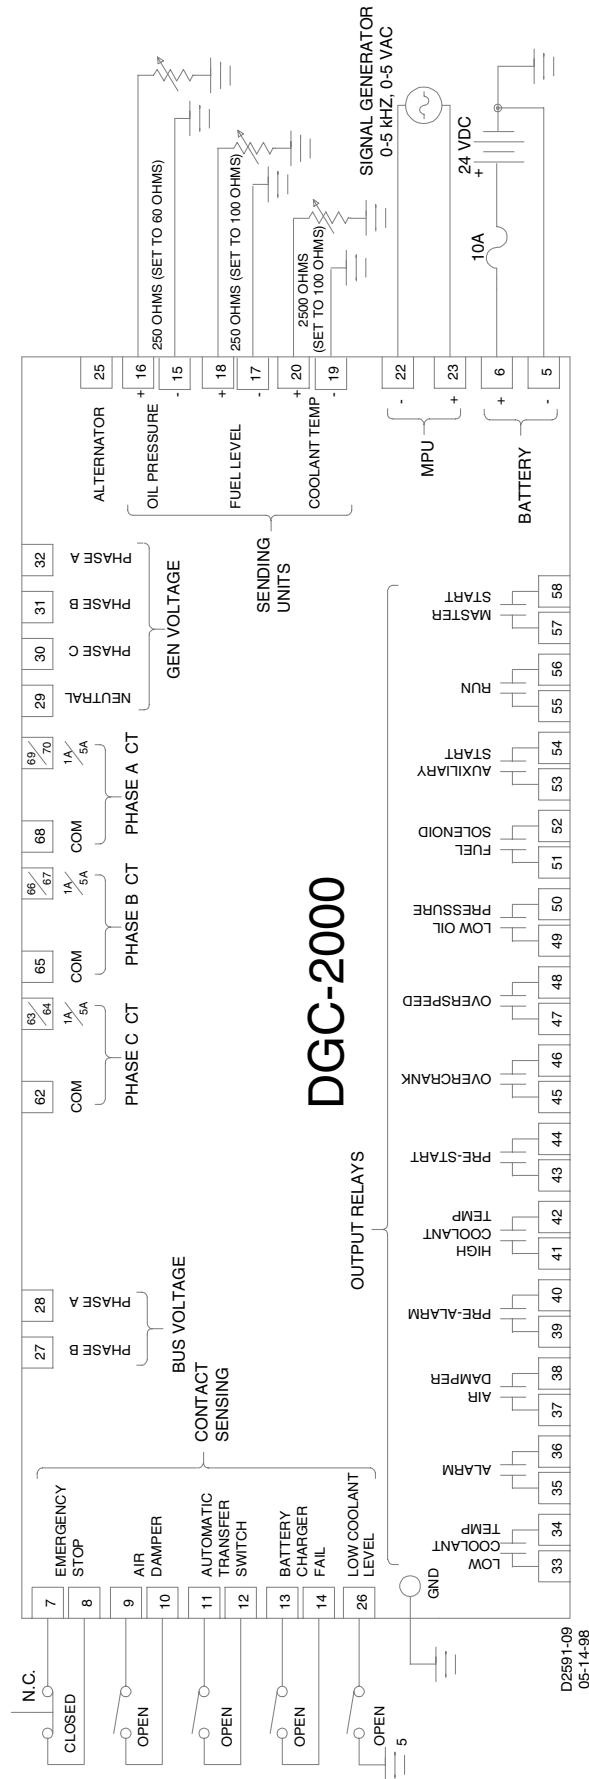

Figure 5-1. Test Set Diagram
- Step 1. Connect the DGC-2000 test setup as shown in Figure 5-1.